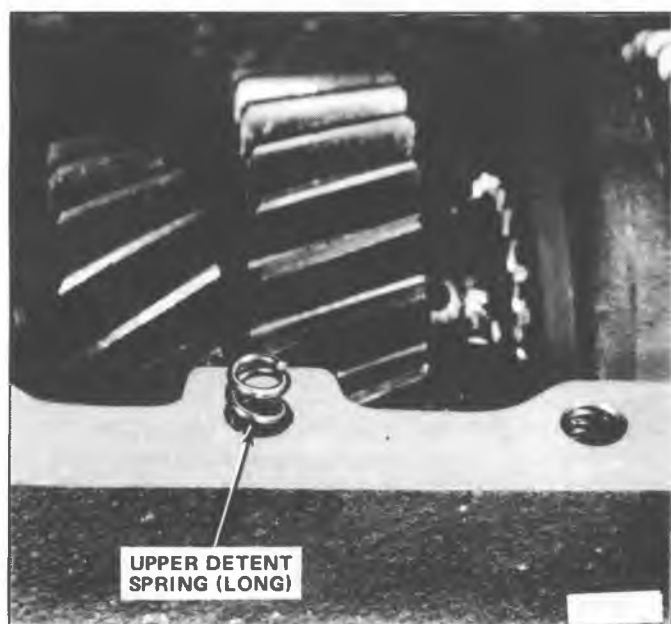

Fig. 4R-Location of Upper Detent Spring
3. Remove long spring that retains the detent plug in the case (fig. 4R). Remove the detent plug with a small magnet.